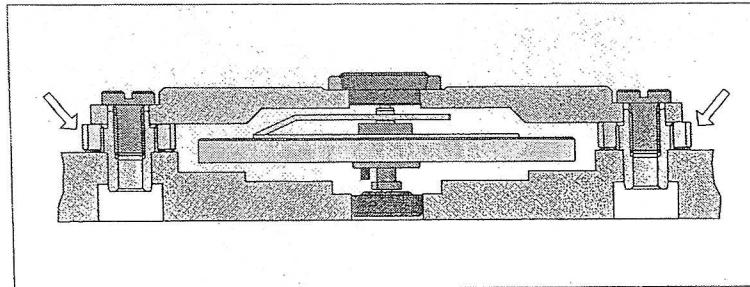

Fig. 7
- 2.17. Check the balance endshake, which can be corrected by means of the 2 regulating nuts for balance bridge, see Fig. 7.